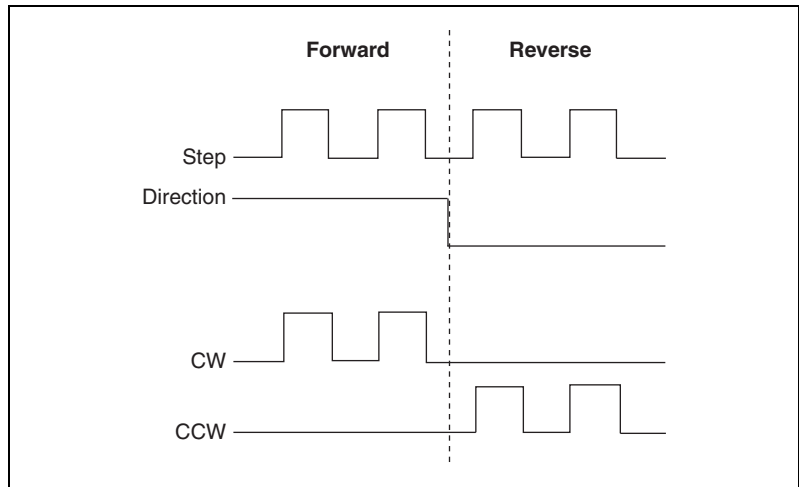

Figure 3-1. Step/Direction and CW/CCW Modes
- When step and direction mode is configured, each commanded step (or microstep) produces a pulse on the step output. The direction output indicates the commanded direction of motion, either forward or reverse. Refer to Figure 3-1 for an illustration.
- CW and CCW modes produce pulses on the CW output for forward-commanded motion and pulses on the CCW output for reverse-commanded motion. Refer to Figure 3-1 for an illustration.